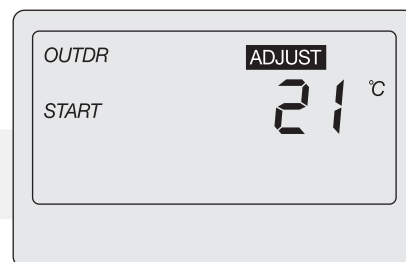

Figure 11-4: Adjust display
5. Press all 3 buttons for 1 second to enter the 'ADJUST' display mode. Refer to Figure 11-4.